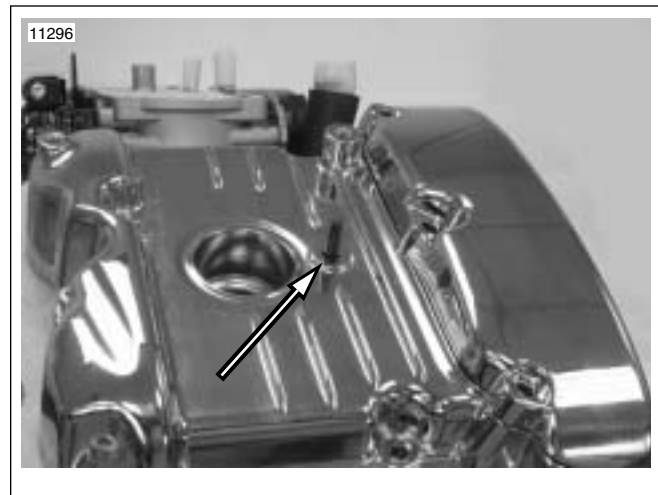

Figure 1-94. Gasket Alignment Tool (H-D-45340)
28. See Figure 1-94. Insert GASKET ALIGNMENT TOOL (HD-45340) into small hole in cylinder head next to spark plug hole.